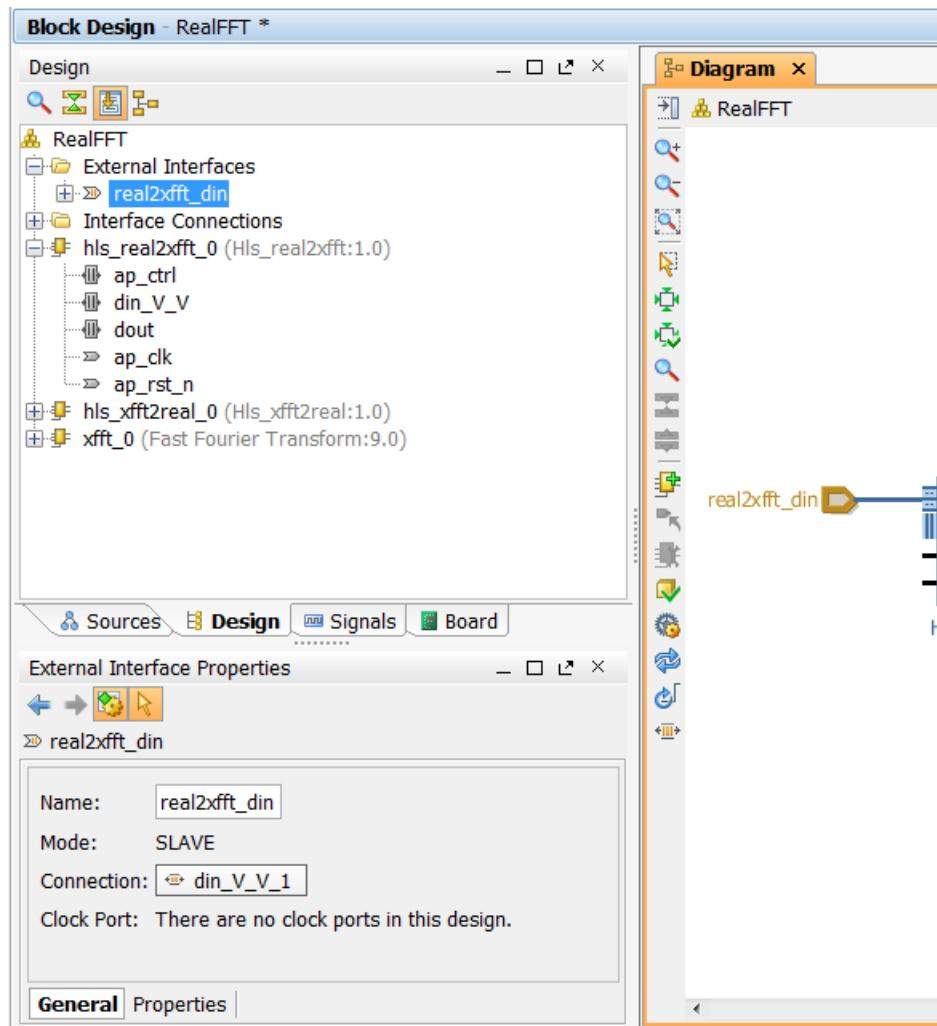

Figure 9-20: Port Naming
- b. In the External Interface Properties pane (Figure 9-20), click in the Name text entry box to highlight **din_V_V**.